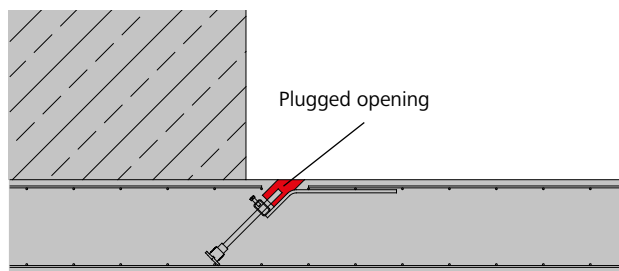

Fig. 30.5
Step 5: The opening in the steel-reinforced concrete slab is then plugged, taking corrosion protection requirements into account. (Fig. 30.5).